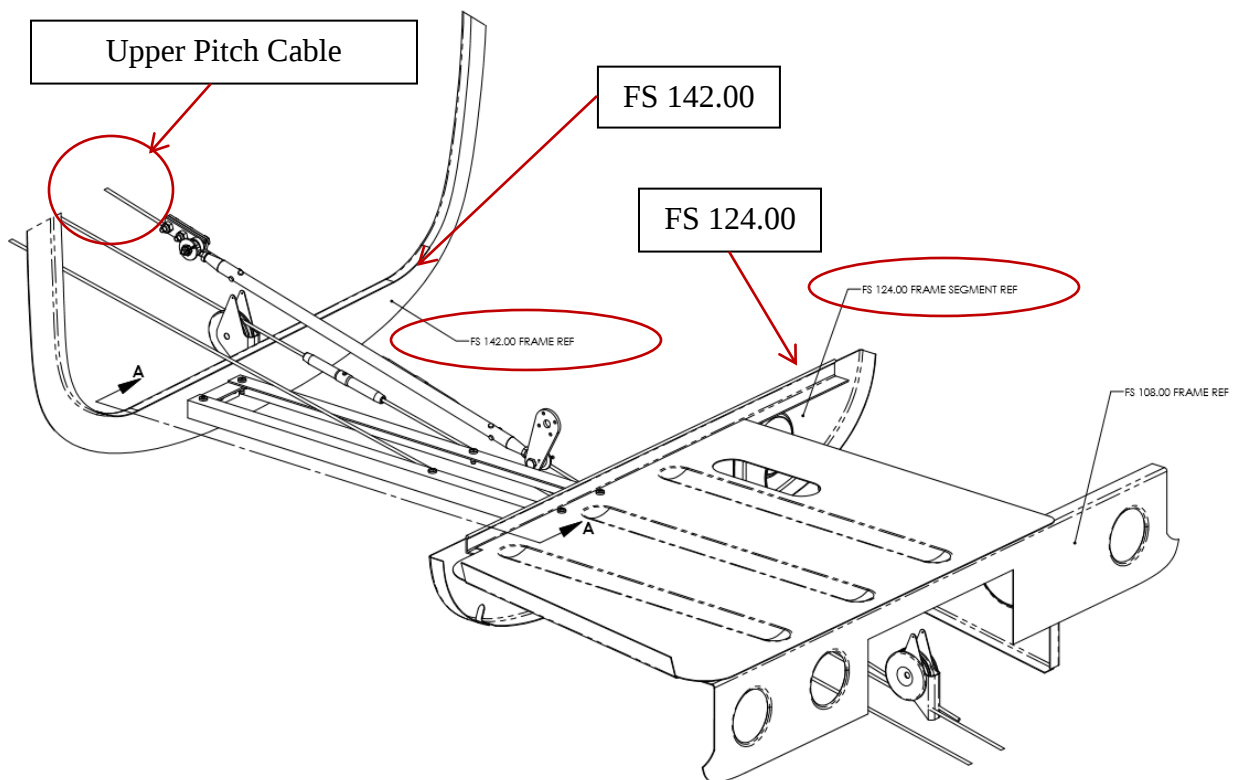

FIGURE 4-1 PITCH SERVO INSTALLATION
6. Locate upper pitch cable at FS 124.00 and mark rear of shelf FS 124.00 and bulkhead at FS 142.00 with the location of the cable. Refer to Figures 4-1, 4-2, and 4-3.